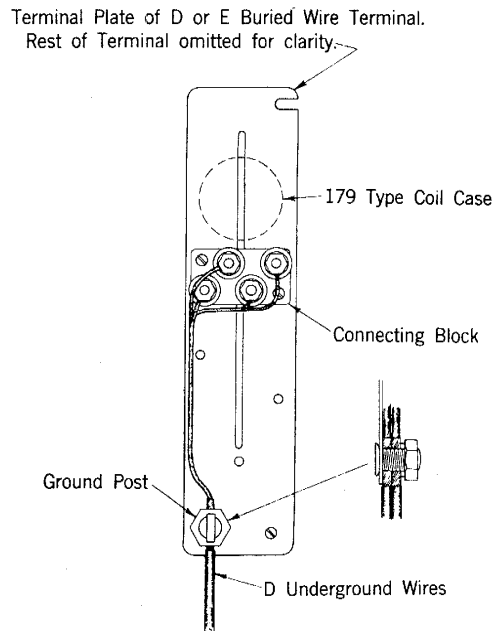

Fig. 9 — Wiring with One Connecting Block
- (d) Connect the conductors to the proper binding posts of the connecting blocks as shown in Figs. 9 and 10.